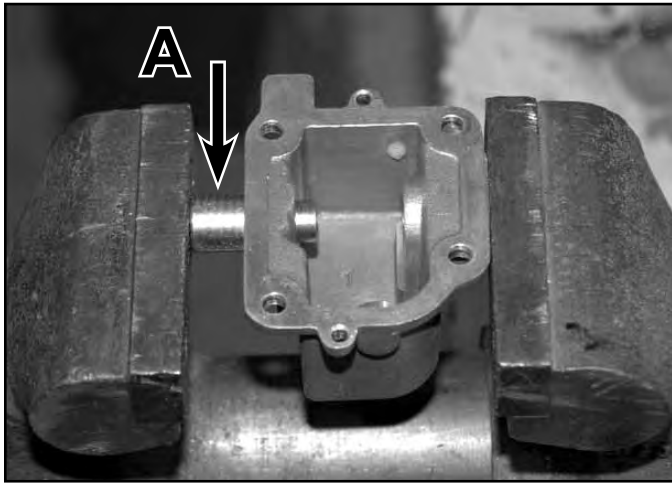

Fig 016 3428-0158
**Note:** The bushings are two different lengths. The side of the case with the thicker boss uses a longer bushing to support the axle. The bushings should be flush with the inside of the case (Fig. 016).